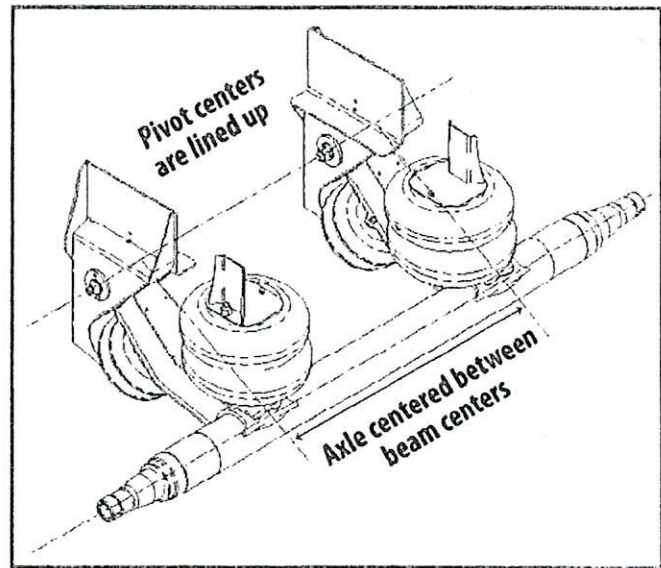

Figure 3.
1. Center the axle assembly on the beams (Figure 3).